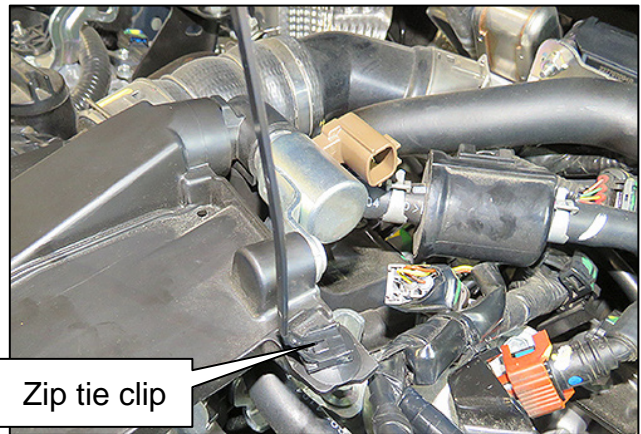

Figure 22
21. Install the new CLIP HARNESS (zip tie clip) as shown in Figure 22.